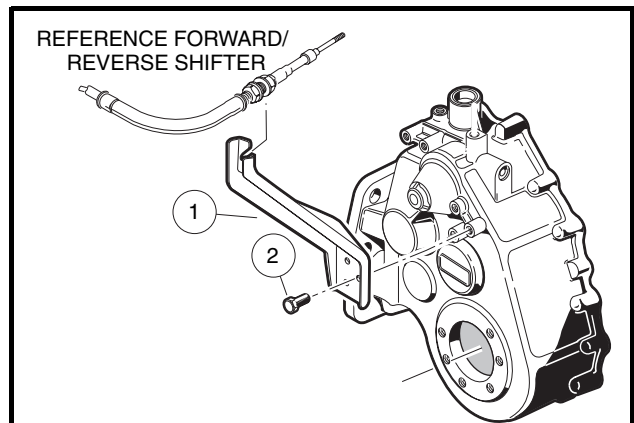

Figure 18-35 Gear Case and Cable Bracket
21. Remove screws (2) securing the transmission shift cable bracket (1) to transaxle (**Figure 18-35, Page 18-13**). See following **NOTE**.
- 22.1. Install the three screws (2) securing the Forward/Reverse shifter cable bracket (1) to the transaxle and tighten them to 135 in-lb (15.3 N·m) (**Figure 18-35, Page 18-13**).